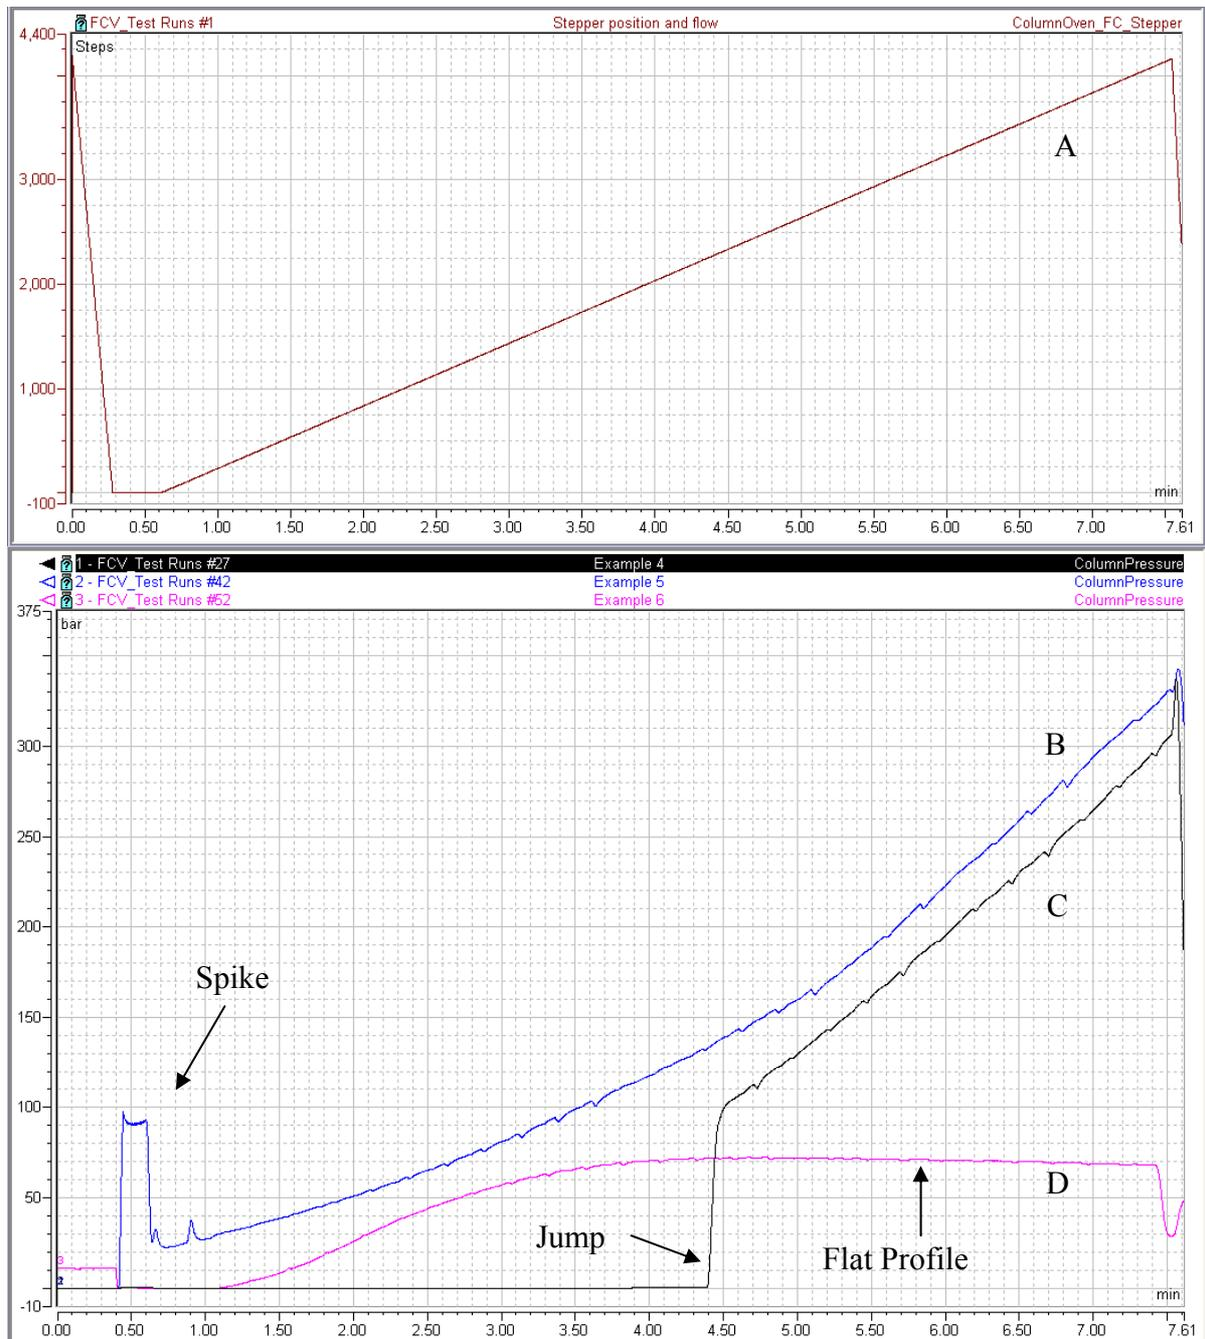

Fig. 6: Test Results of different Flow Control Valves with mechanical failures
Fig. 6 shows typical data from flow control valves that are not working properly because of a mechanical failure. Cleaning the valve (→ section 3) will probably not recover the flow control valve and the valve will most likely need to be replaced. In this case, contact Dionex Service.
- Fig. 6 A – Stepper motor position (as reference).
- Fig. 6 B – Pressure spike in the beginning. May indicate a damaged membrane.
- Fig. 6 C – Pressure 'jump' in the middle. May indicate dirt, air or an internal leakage.
- Fig. 6 D – Pressure remains almost constant. Usually indicates a broken valve seat.